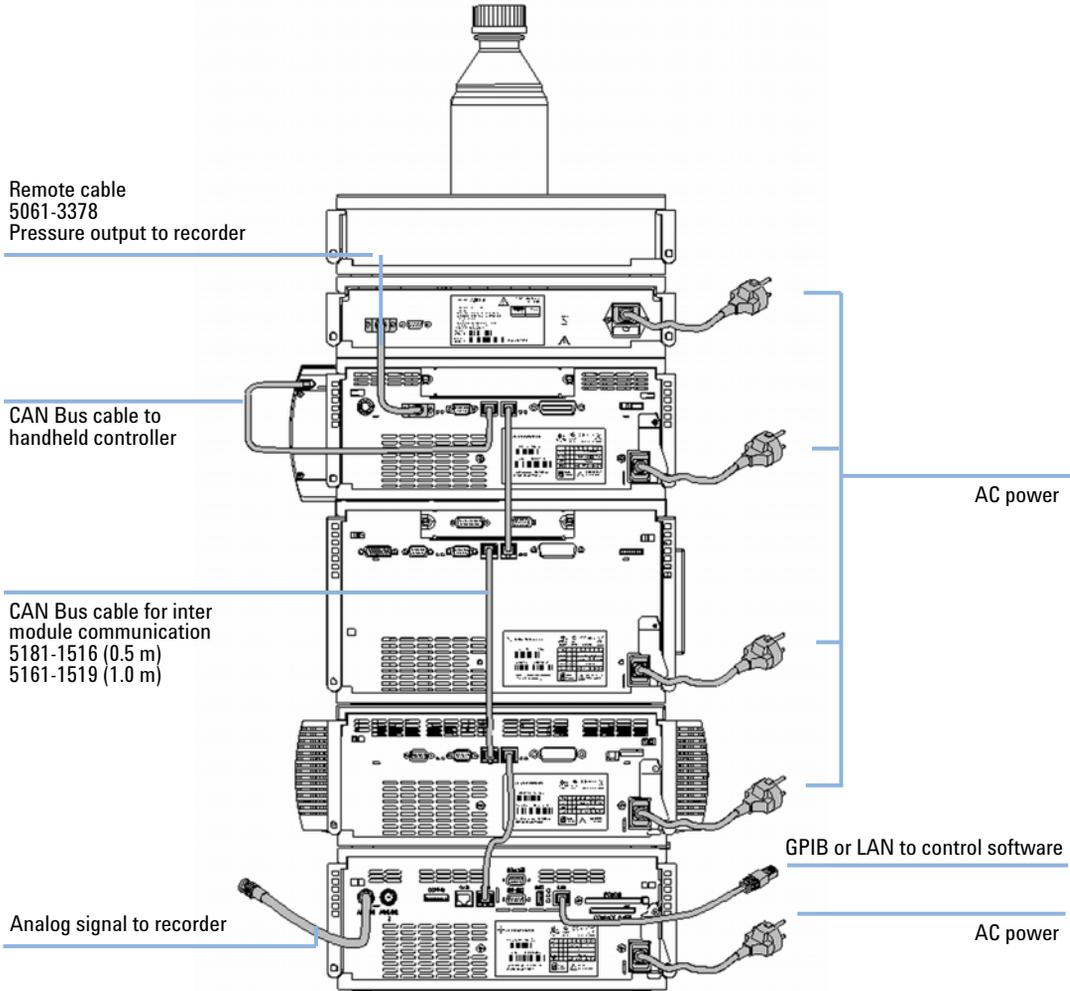

Figure 6 Recommended Stack Configuration (Rear View)
- 4 Connect the CAN cable to the CAN connector of the next module, see Figure 6 on page 29.
- 4 Connect the APG cable to the APG remote connector of the pump, see Figure 6 on page 29.